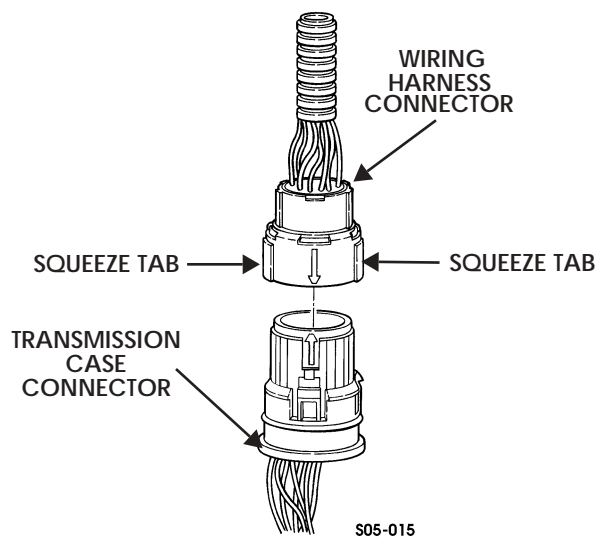

Figure 5-66: Wiring Harness Connector
10. Carefully align arrows on wiring harness connector and transmission case connector and push connectors straight together until a solid click is felt (Figure 5-66).